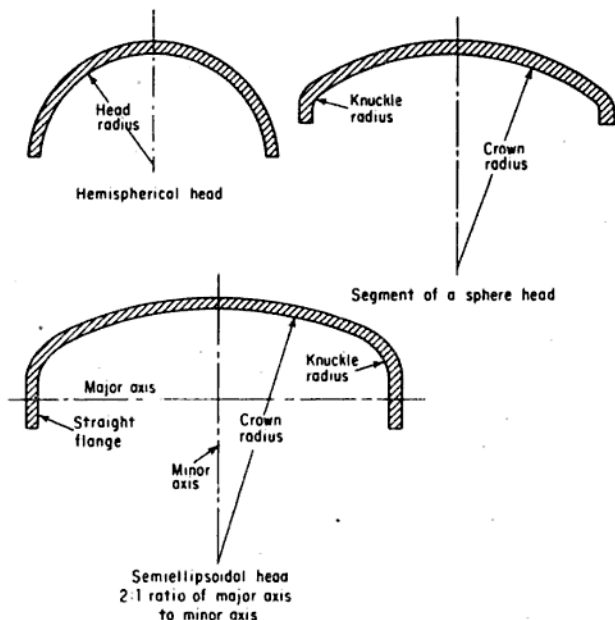
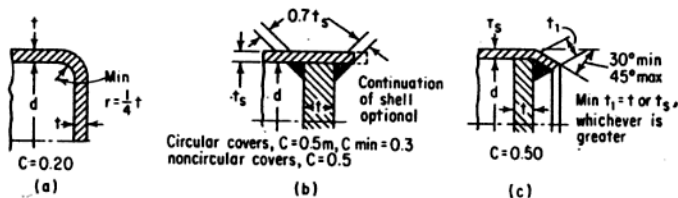

Fig. 9-3. Dished heads come in these three shapes.
Fig. 9-4. Some unstayed Code-approved flatheads and covers.
A There are four: (1) segment of a sphere, (2) semiellipsoidal, (3) hemispherical, and (4) flatheads. The first three are bumped heads (Fig. 9-3). Some Code flatheads and methods of attachment are shown in Fig. 9-4. Bumped heads are flanged, with a corner radius on the concave side of the head of not less than 3 times the head thickness and in no case less than 6 percent of the diameter of the shell for which the heads are to be attached.
C = a factor, depending on method of attachment (Fig. 9-4)